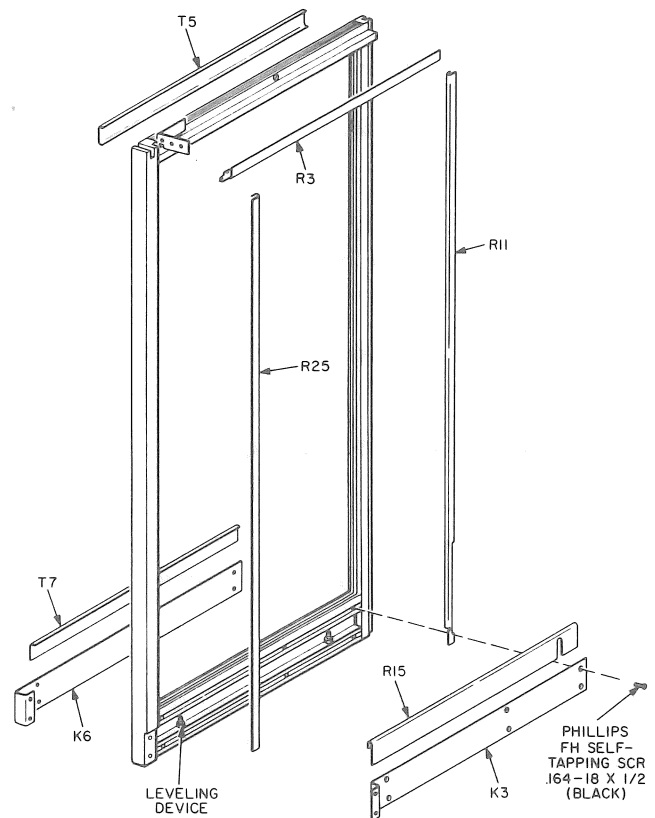
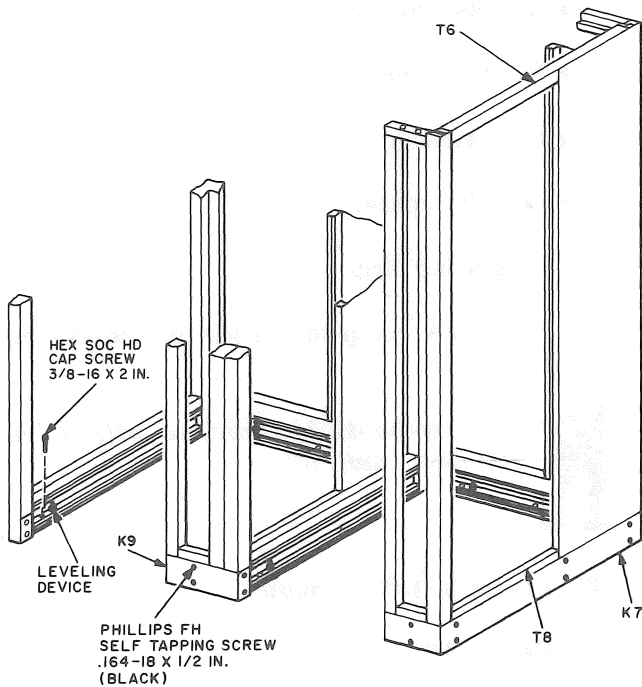

Fig. 15—Partial View of Left Wall
Fig. 16—Partial View of Two Booths
- (2) Place List 21 booth to the right of the previous booth and perform operations outlined in 3.06 through 3.10.
- (3) Remove R3 retaining strip from top left-inside wall of the booth being installed (Fig. 15).
- (4) Fasten booth walls together at top using two 1/4-20 by 1-1/2 hex socket head cap screws and at the bottom using two 1/4-20 by 3/4 hex socket head cap screws. Screws are furnished with List 21 booth.
- (5) Install R3 in its original position.
(6) Install T6, T8, and K7 (Fig. 16) on the last right-hand booth of a line-up.
(8) Install K9 kickplate (packaged separately) on the bottom-front-outside wall between booths (Fig. 16).
- (1) Remove and retain the following items from the previous existing or left end booth (Fig. 15):
- (3) Repeat 3.31 (3) through (7).
- (4) Repeat 3.22 (4).
- (5) Remove and retain the following items from the new booth.
- (6) Transfer B-651879 rails from the left wall of the new booth to the wall where the glass panel was removed.
- (7) Install all items retained in (1) and (5) on the left walls of the booths (Fig. 15).